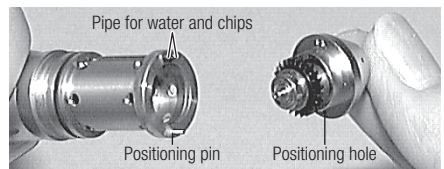

Fig. 17
- 3) When mounting a new cartridge, align the position of the pipe for water and chips, and the positioning pin with the hole of the nose hood of the cartridge and push in straight (Fig.17).